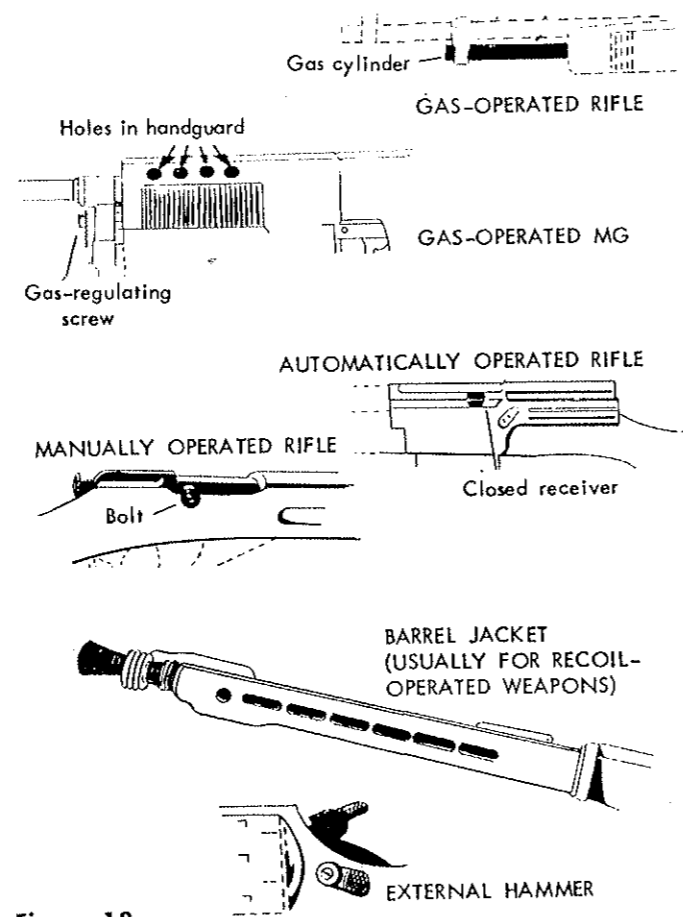

Figure 18.
1. Is the weapon manually reloaded, or is it reloaded automatically? Semiautomatic rifles can usually be distinguished from manually operated ones by their enclosed receivers which house the more complicated mechanisms and the driving springs (fig. 18).
a. In the case of the recoil-operated weapon, the barrel must be free to move backward and forward. It is frequently, but not always, housed within a slide or barrel jacket or casing (fig. 18).
b. The gas-operated weapon usually carries a gas cylinder above or below the barrel. It has some sort of gas regulator screw (fig. 18).
- f. A barrel casing as shown in figure 18.